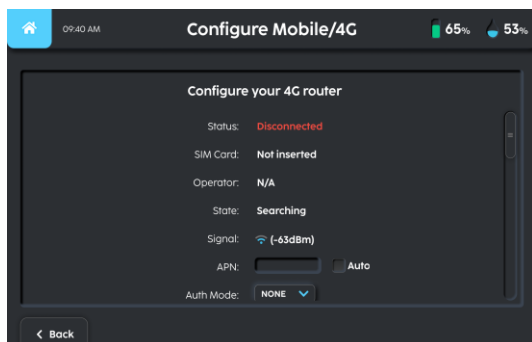

FIGURE 6-8
1. The operator may configure mobile/4G settings (Fig 6-8)